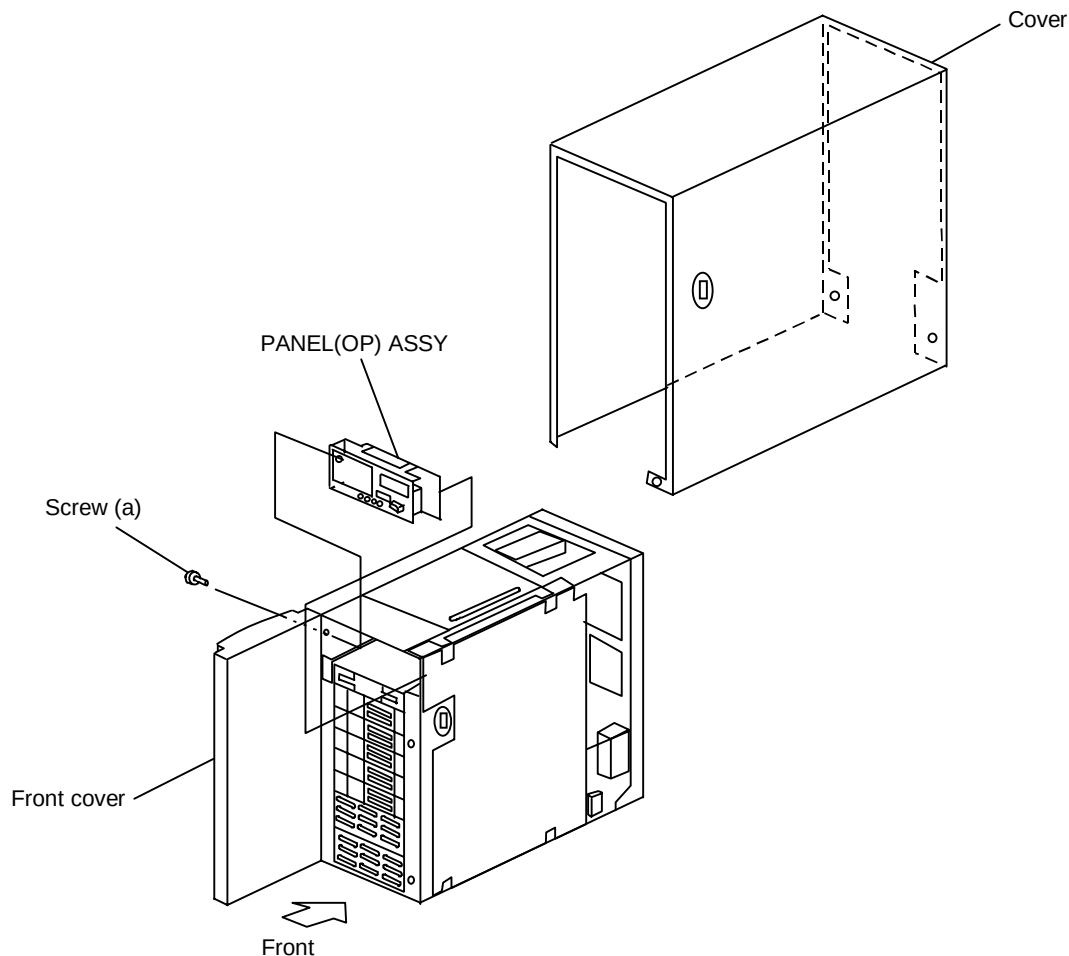

Figure 8.1 Replacing PANEL(OP) ASSY
8. Replacing PANEL(OP) ASSY (See Figure 8.1.)